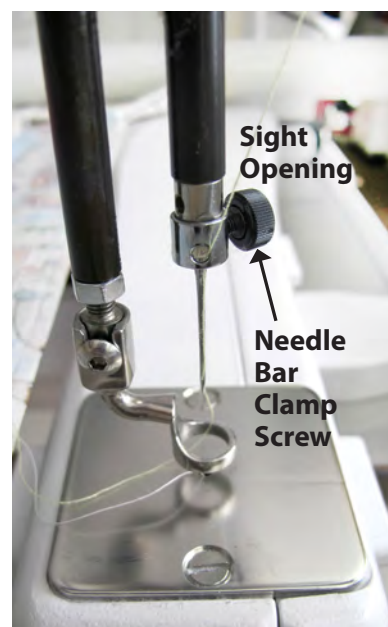

Figure 8
3. Loosen the needle bar clamp thumb screw with the disc-shaped screwdriver or fingers (see Figure 8) enough to assure that the needle can be inserted all the way up to the top of the sight hole.
4. With the scarf (small recess area on the back side of the needle just above the needle eye) facing the handwheel location of the machine, and the long groove down the front of the needle facing the bobbin case side (see page 15, Figure 8), push the needle all the way up inside the needle bar – until it can go no further. Look into the sight hole to verify that the butt of the needle reaches the top of the sight hole.